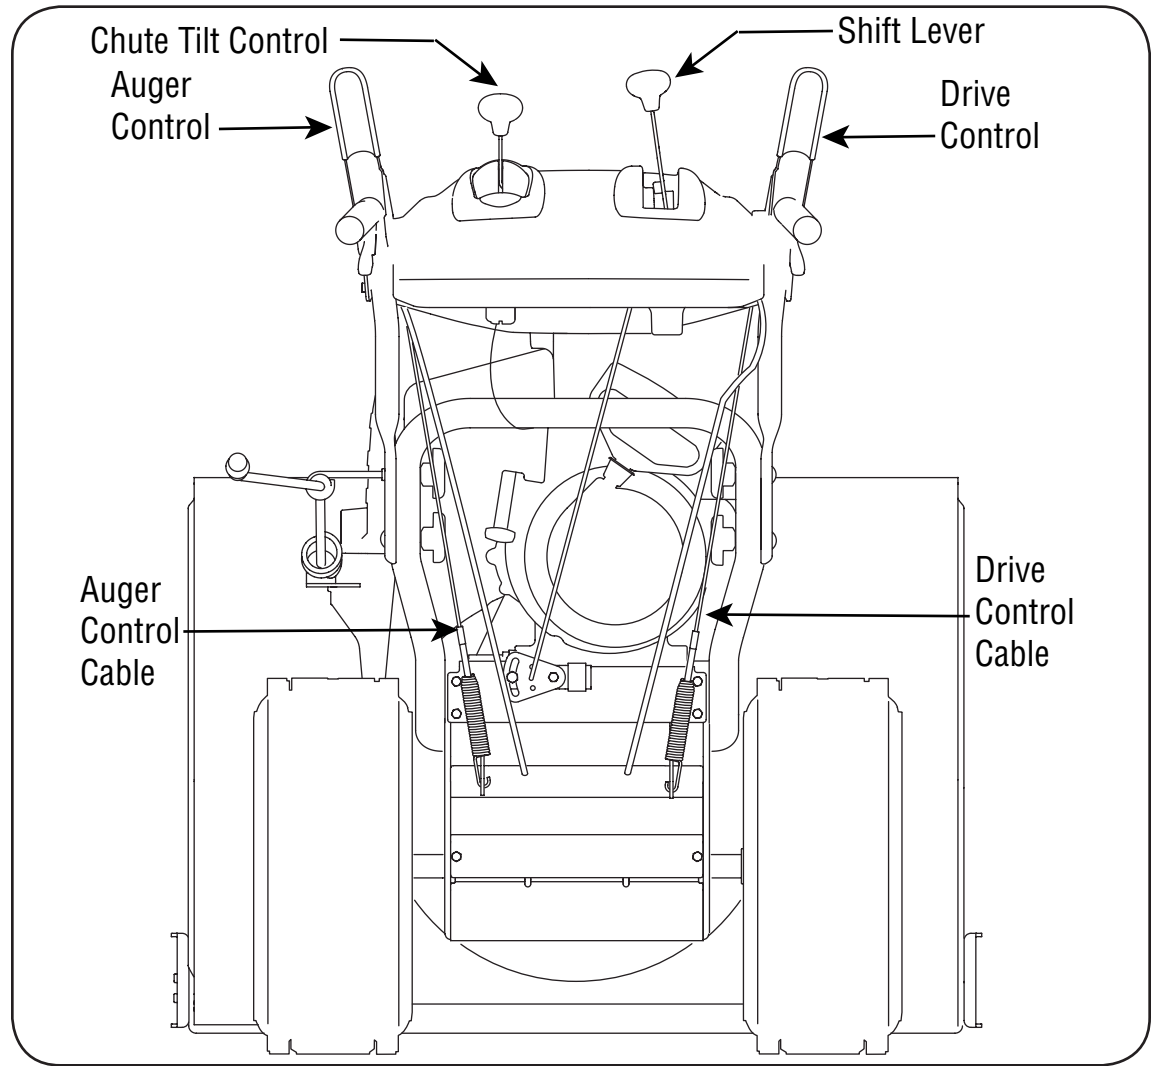

Figure 3-8
Refer to Figure 3-8 for location of controls.
1. From beneath the handle, pull downward on the appropriate cable and unhook the spring found on the end of the cable from its respective actuator bracket. Refer to Figures 3-8 and 3-9.